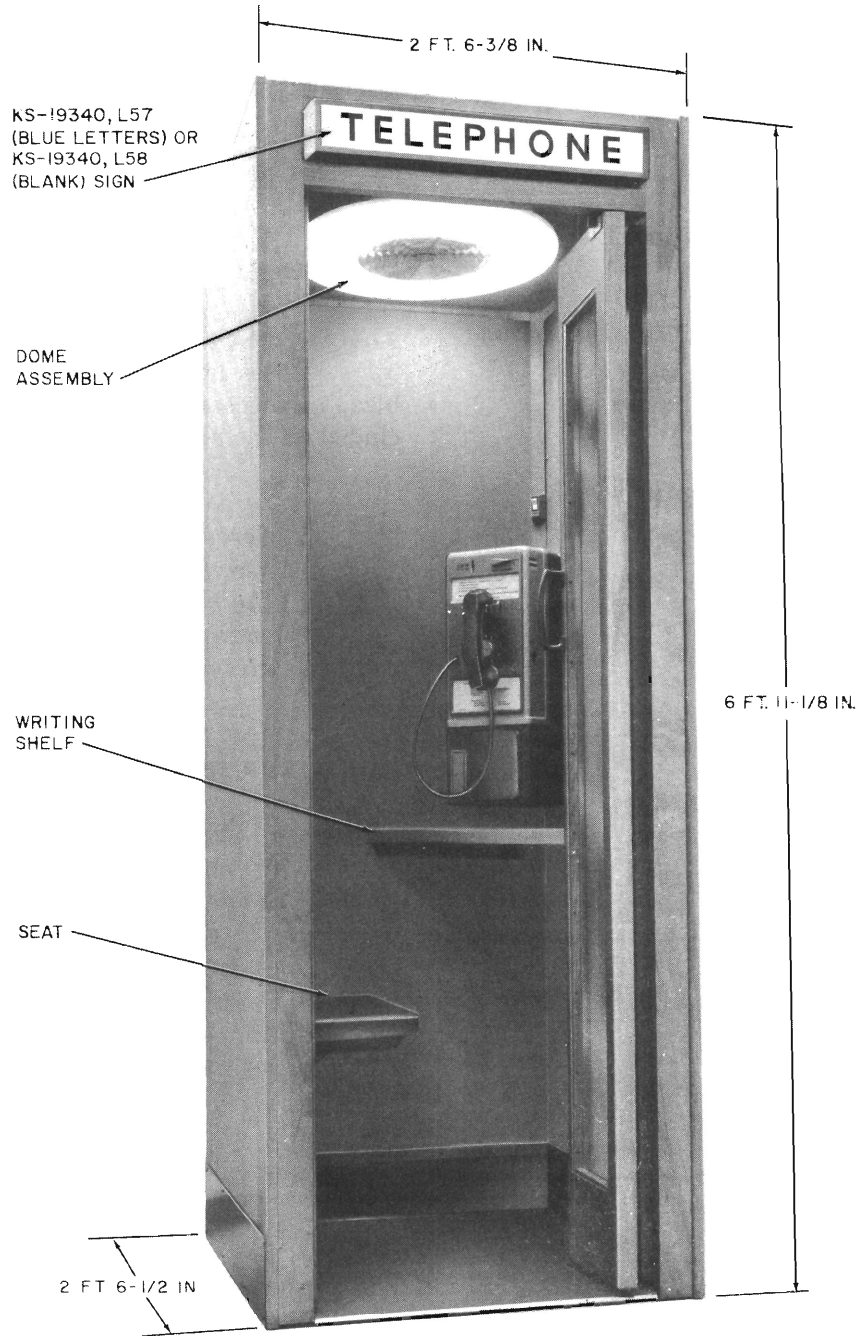

Fig. 1 — KS-19340 Booth
2.01 The overall dimensions of a single booth are shown on Fig. 1.